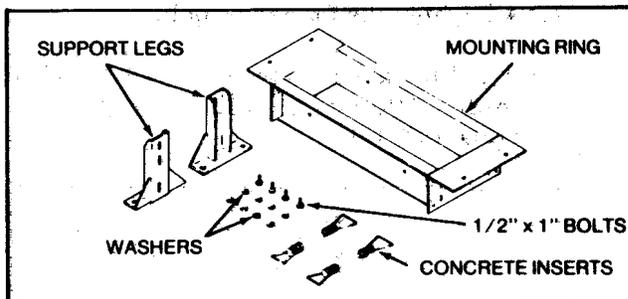

Fig. 18a
- (b) Figs. 18a through 18j added